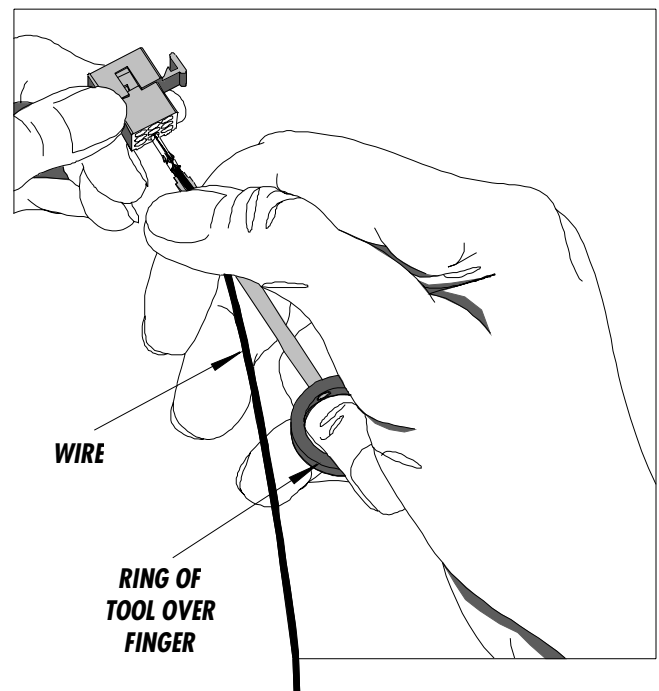
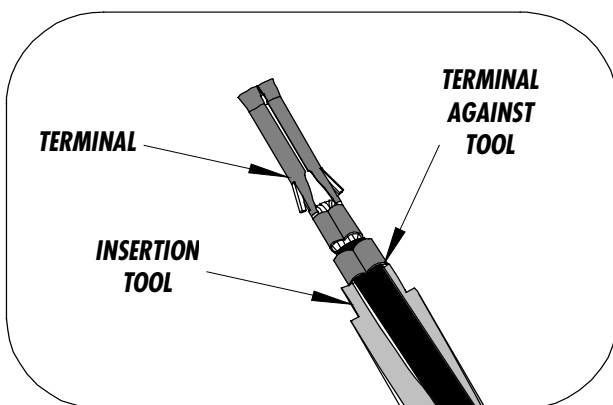

Figure 1
Figure 2
- 1) To properly use this tool, with the flat side facing up, place the ring over the ring finger past the first joint (See Figure 1). Place the wire in the groove of the tool so that the terminal is touching the end of tool (See Figure 2).***